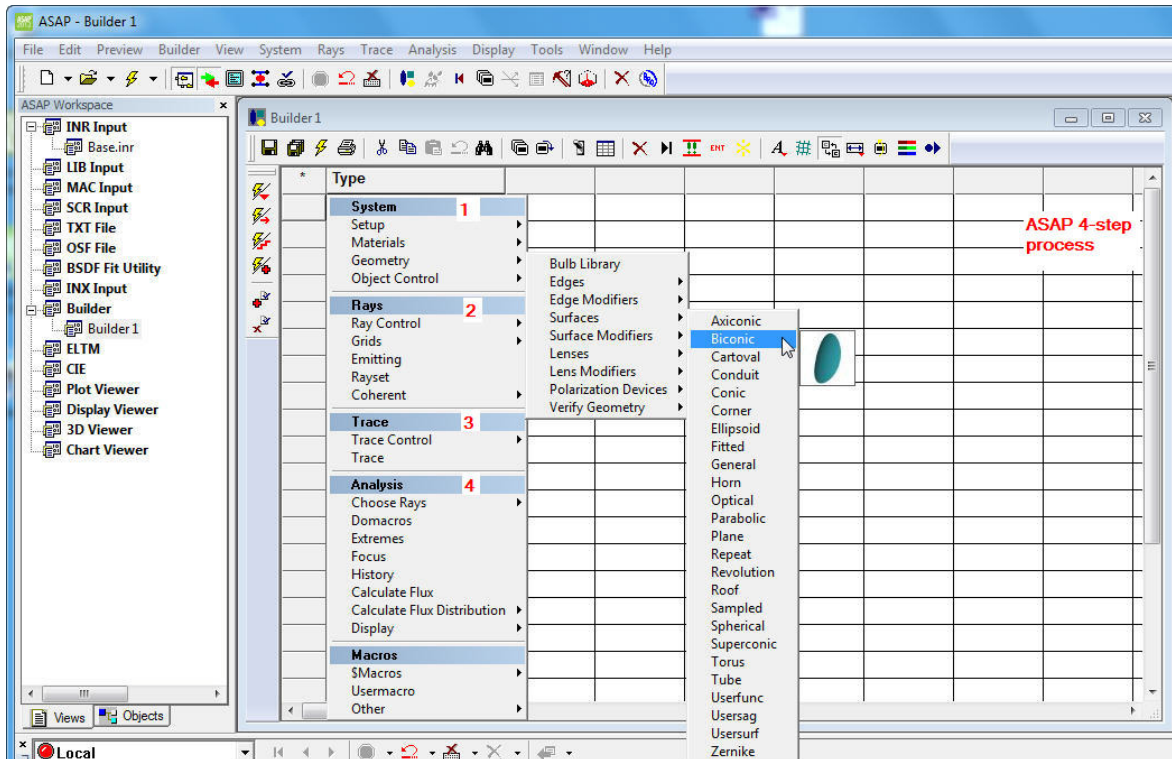

Figure 21 Selecting commands on the Builder window menu
- 12 Double-click a cell under the Type column to display a shortcut menu, and use your cursor to hover over specific options on the menu. For example, under **System** select Geometry> Surfaces> Biconic, as shown in Figure 21.